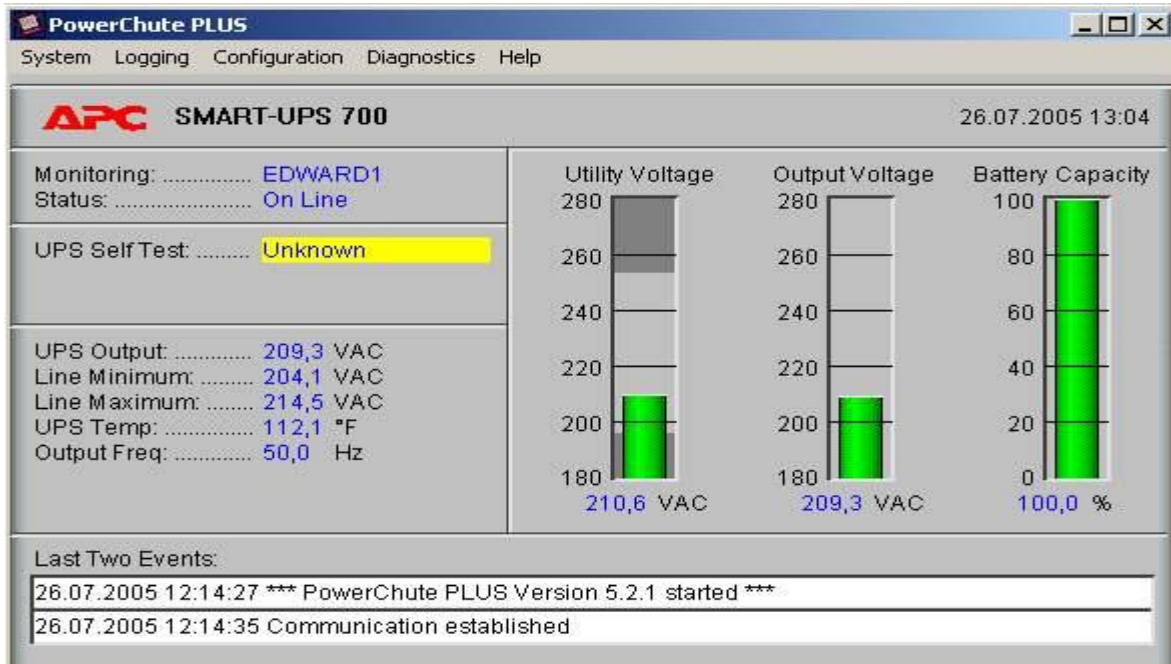

Fig. 8.5—12 PowerChute plus configuration
1. Start configuration of PowerChute plus, by selecting **Start>Programs>PowerChute plus>PowerChute plus** (Fig. 8.5—12).
2. Select the menu item **Configuration>Event Actions...** (Fig. 8.5—12). In the dialog box that appears (Fig. 8.5—13), in which events are listed on the left, you can set different reactions for event types, on the right side of the window.